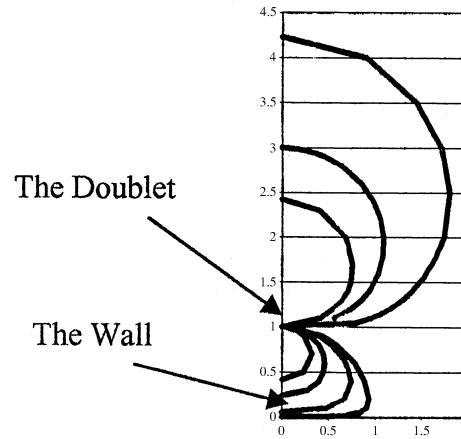

**Fig. C8.7**
**C8.7** Find a formula for the stream function for flow of a doublet of strength  $\lambda$  at a distance  $a$  from a wall, as in Fig. C8.7. (a) Sketch the streamlines. (b) Are there any stagnation points? (c) Find the maximum velocity along the wall and its position.